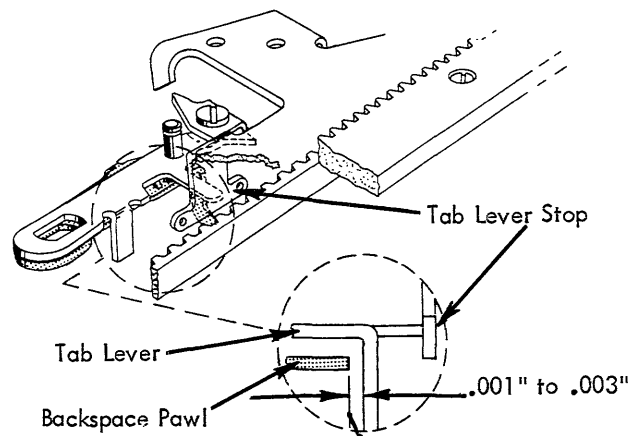

FIGURE 137. Tab Lever Stop Adjustment
2. Tab Lever Stop - The rest position of the tab lever is controlled by a lug on the escapement bracket called the tab lever stop (Fig. 137). The stop should be formed front or rear so that a clearance of .001" to .003" exists between the vertical lug on the tab lever and the backspace pawl when the backspace pawl is bottomed in its rack.